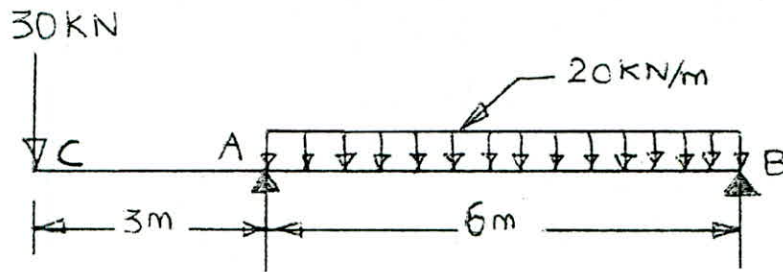

FIGURE-2
- (B) Draw the SFD and BMD for the overhanging beam shown in figure-2. 12